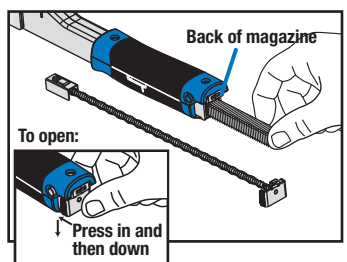

Figure 3
- Remove the staple pusher by pressing the tab in and pulling down. See figure 3.
- Slide up to two rows of staples into the back of the magazine. See figure 3.